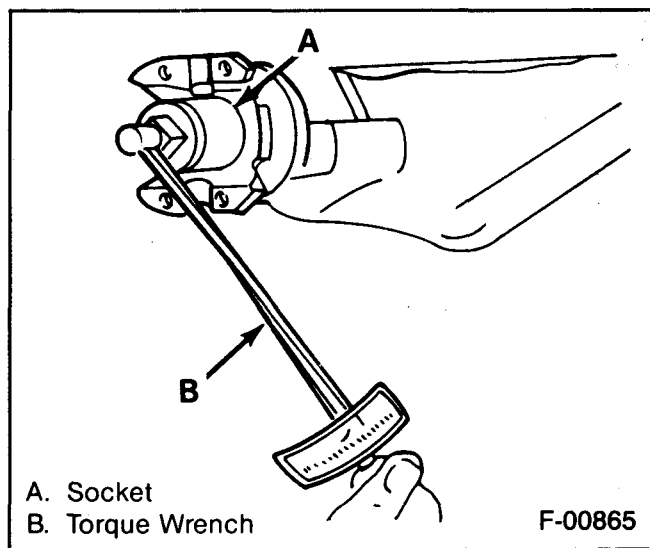

Figure 16—Measuring Pinion Rotating Torque
- The torque required to rotate the pinion (figure 16). Record the torque value for later reference.
- The rotating torque of the pinion and compare with the torque recorded earlier (figure 16).